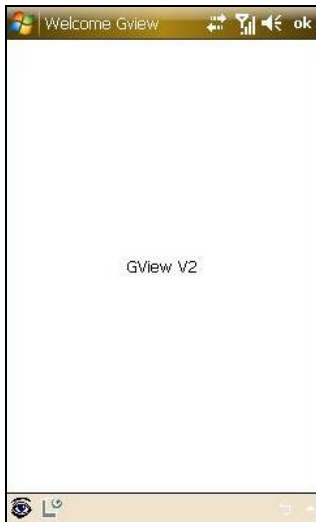

Figure 9-2
3. Click the  button located at the lower left corner (Figure 9-2). The login screen appears.